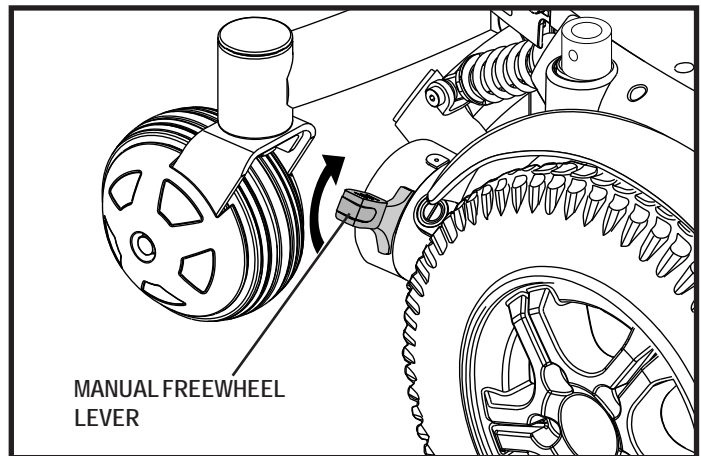

Figure 5. Freewheel Mode (Drive Disengaged)
2. Push down both manual freewheel levers for free-wheel mode (drive motor disengaged). **See figure 5.**